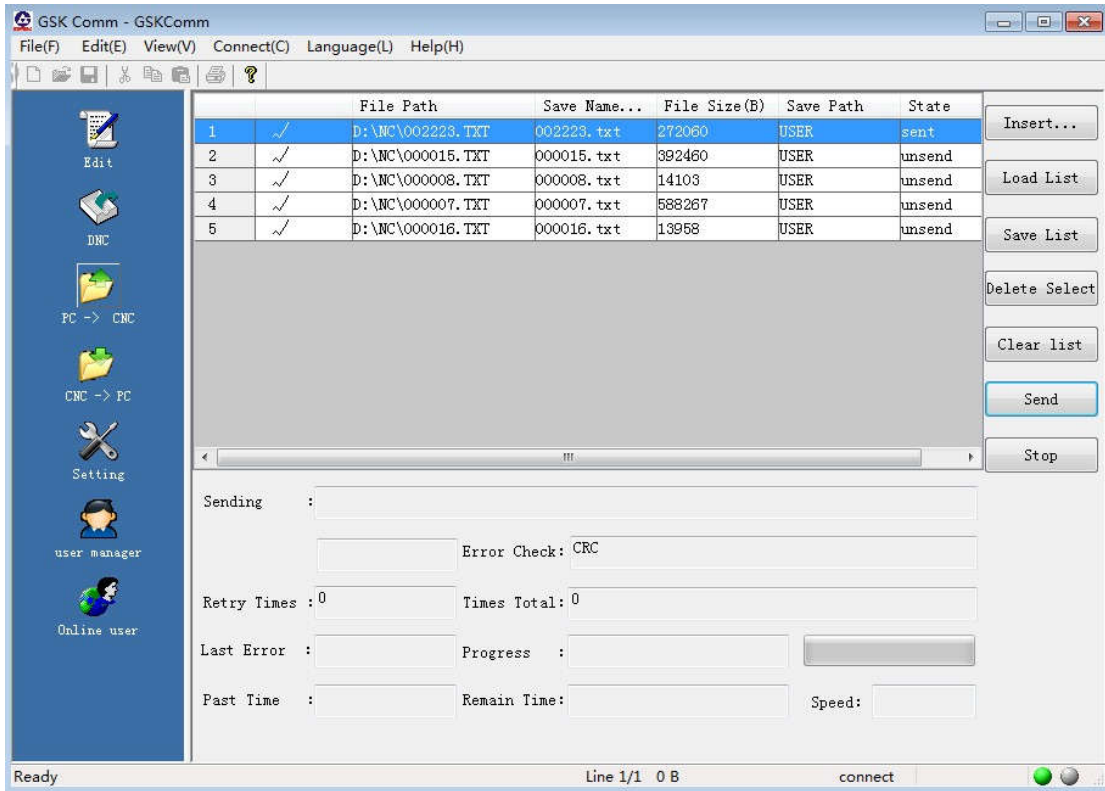

Fig. 11-3-2-11
4. After the file is sent, the status bar of the dialog box displays “Sent”. As shown in the figure 11-3-2-12.